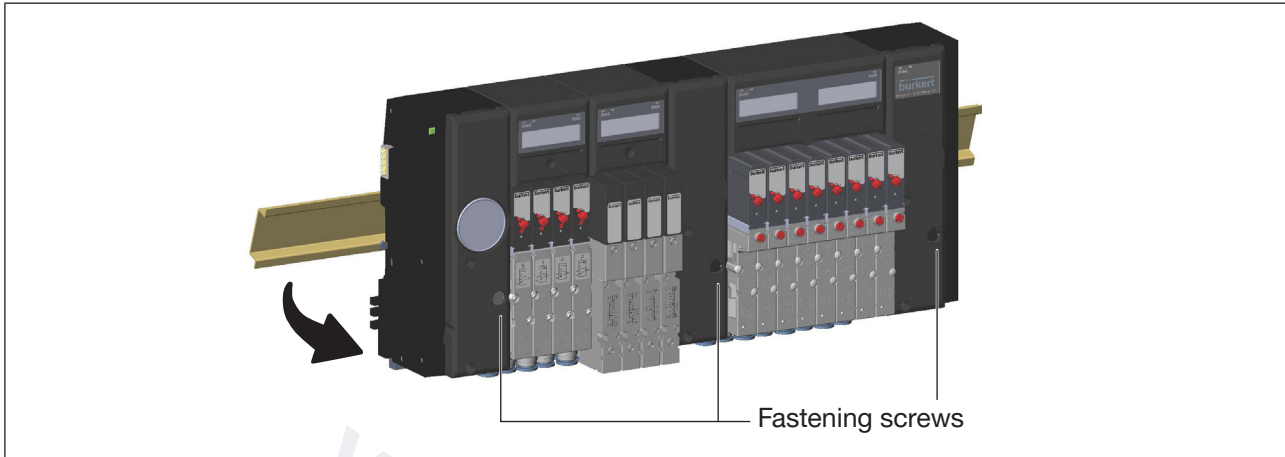

Figure 15: Releasing the valve block from the standard rail
- Make sure all the fastening screws of the valve block (see “Figure 15”) are turned all the way counter-clockwise.
- Turn the fastening screws of the valve block (see "Figure 15") carefully all the way counter-clockwise. **Hold the valve block! The valve block is not connected securely to the standard rail after loosening the fastening screws.**